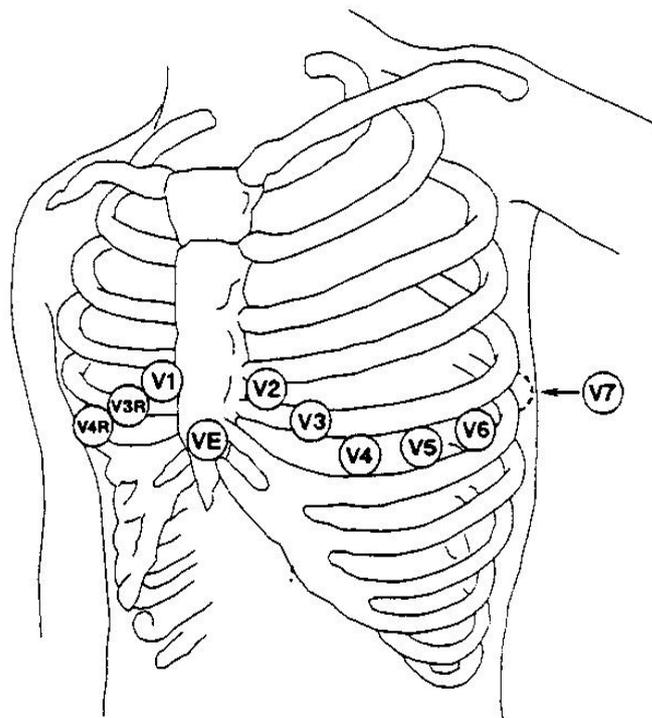

Figure 8-3 C-electrode placement for 5-lead set
- Red (R) electrode - Be placed near the right shoulder, directly below the clavicle.
- Yellow (L) electrode - Be placed near the left shoulder, directly below the clavicle.
- Black (N) electrode - Be placed on the right hypogastrium.
- Green (F) electrode - Be placed on the left hypogastrium.
- White (C) electrode - Be placed on the chest as illustrated in the F Figure 8-3
For 5-lead set, attach the C-electrode to one of the indicated positions as below (Figure 8-3):